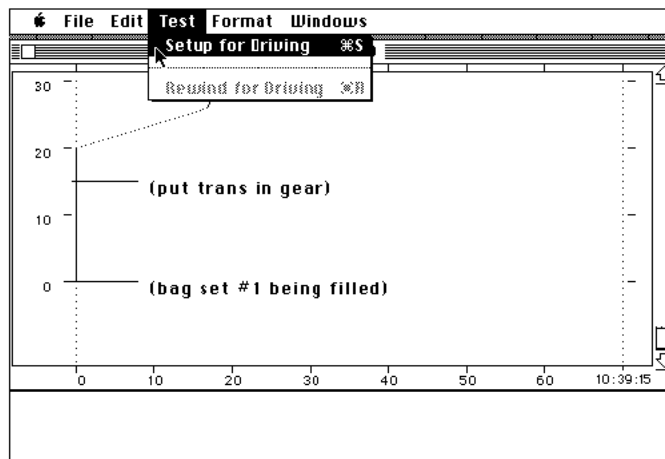

Figure 1
- 302 Under the “Test” menu, position the mouse pointer on “Test” and press and hold down the mouse button, opening the “Test menu.” Continue to hold down the mouse button, pull the mouse toward you, and position the pointer on “Setup for Driving;” then release the mouse button to select it. See Figure 1 for FTP and 1A for HFET.